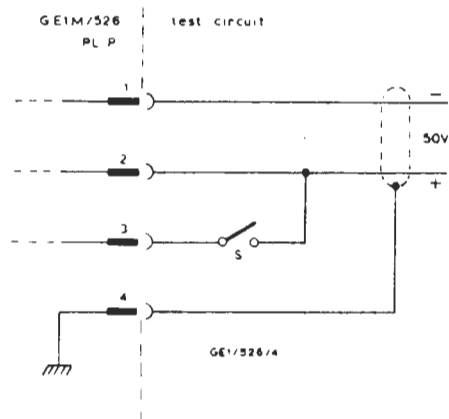

Fig. 4 Test Connector
50-volt d.c. supply, connected via Painton female connector Type 312010 and the circuit shown in Fig. 4.
2. Connect the output of the colour coder under test to the oscilloscope via the lead and equaliser. Apply the appropriate input signals and power supplies, connecting the 50-volt supply via the test circuit shown in Fig. 4 and applying the colour-bar signals to the *Bars* input connectors of the panel.
3. Close the switch S (Fig. 4), thereby operating relay RLD and paralleling the RGB signal circuits.